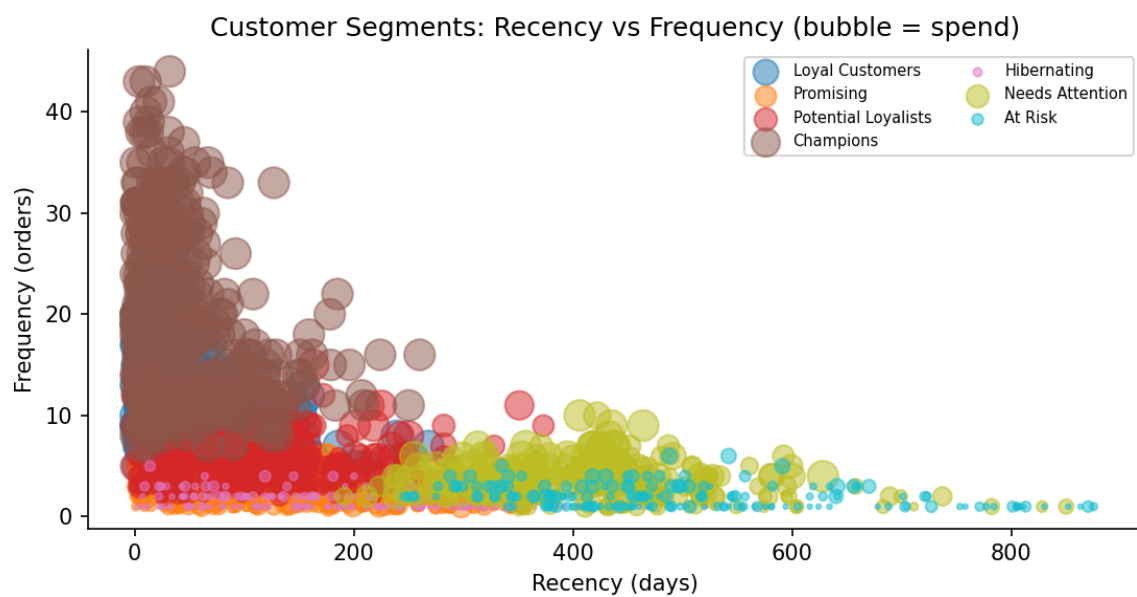

Figure 2 — Recency vs. Frequency by segment; bubble size = total spend.
- Figure 2 — RFM scatter by segment